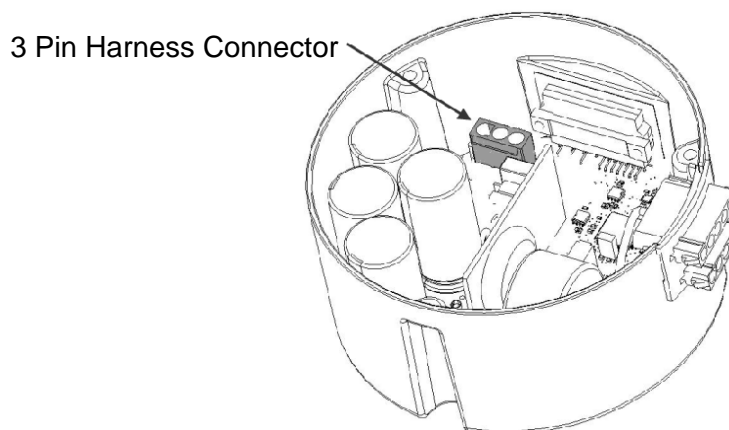

Figure 15
7. Check phase to phase resistance between each of the three phase pins in the harness connector [Figure 15]. Resistance levels between any two pins should be greater than 100K.